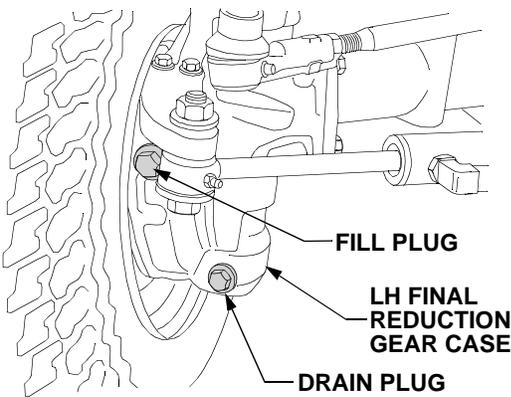

Figure 50
- Remove the fill plug and drain plug from the gear case and drain the oil. See Figure 50. After the oil has drained, reinstall the drain plug.